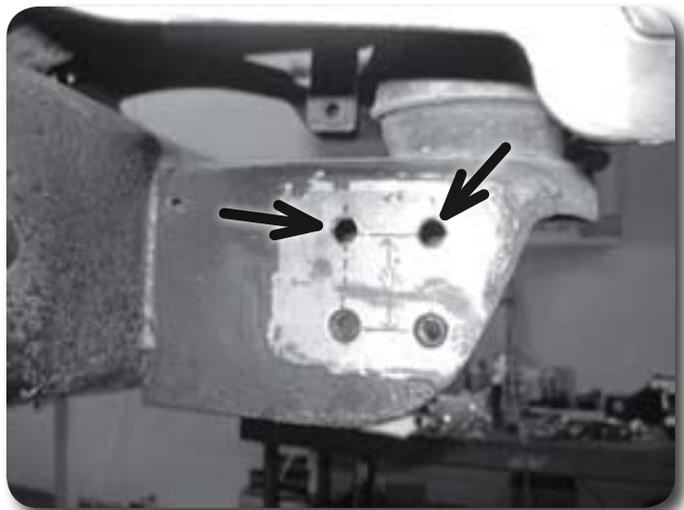

Figure 23
48. Locate the original outside bumper support bracket mount holes on each front body mount. Measure straight up from the center of the holes 1-1/2" and mark. Drill 7/16" holes at the marks (4 total). Figure 23 The brackets will be attached after the bumper is in place.